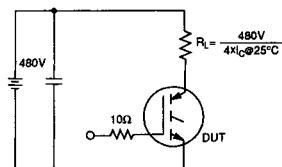

Fig 12b. Pulsed Collector Current Test Circuit
- ① Repetitive rating;  $V_{GE} = 20\text{V}$ , pulse width limited by max. junction temperature (See figure 12b).